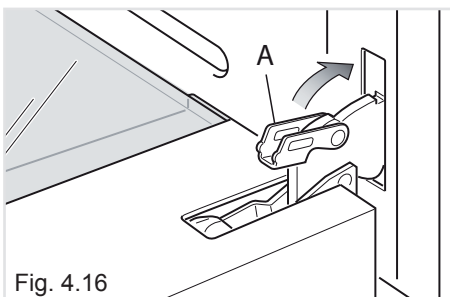

Fig. 4.16
- Unlock the oven door by opening it completely and closing the lever "A" on the left and right hinges (Fig. 4.16).